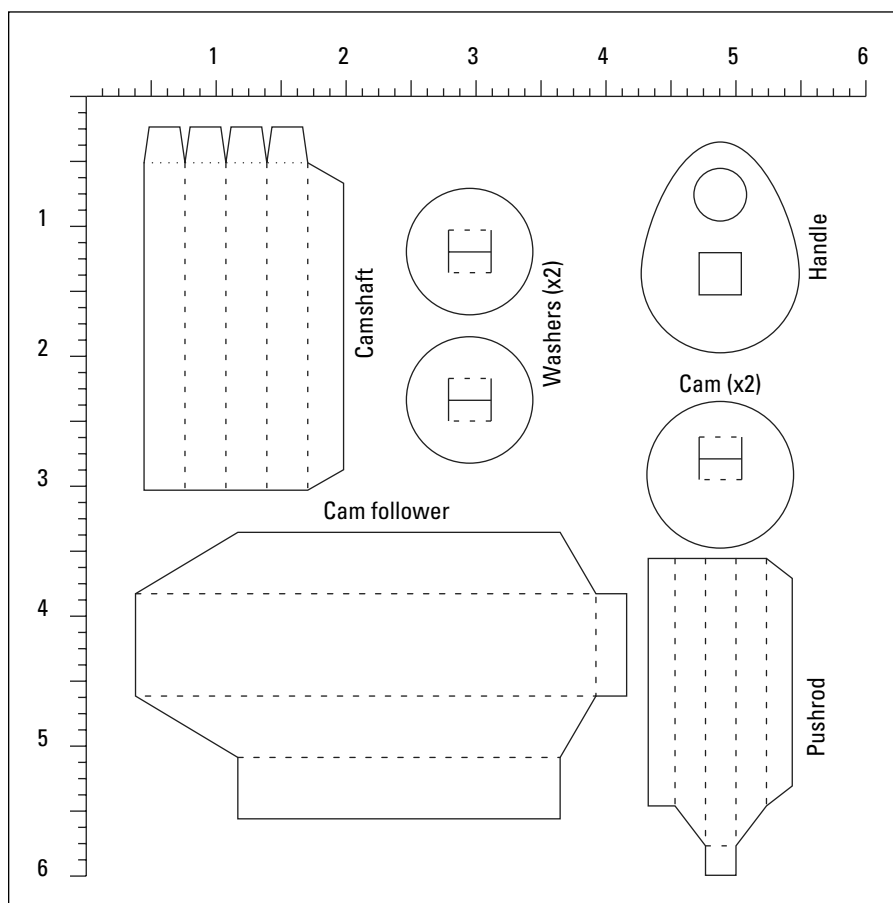

Figure 11-11:
1. Copy the templates onto a sheet of card (Figure 11-11).